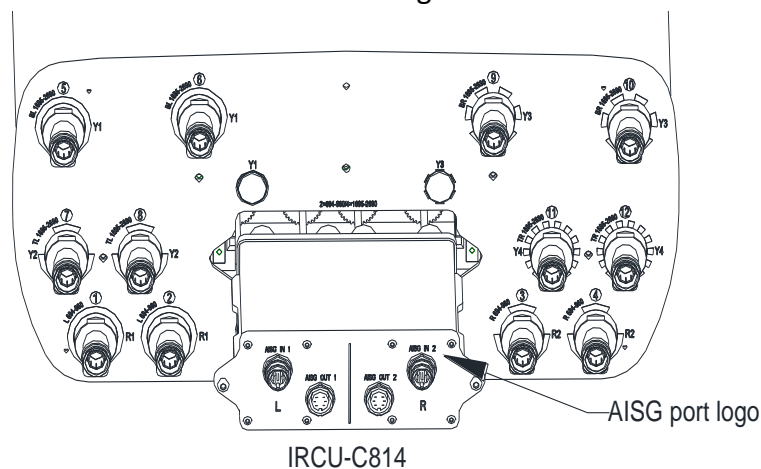

Figure 4-1 IRCU Installation
a) As shown in Figure 4-1, "AISG OUT" logo on Antenna cover need to align with IRCU "IN" and "OUT", then insert IRCU into antenna mounting slot.